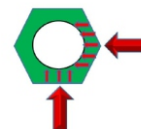
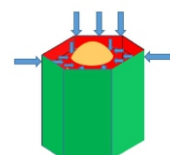

Fig. 7: bumpers hex
Fig. 8: forces exerted on the cell division
As seen in figure (6) when the egg hit the ground from the sides it will be cracked, however when it hits the ground on either of the ends, the impulsion effect would be much less. We would be able to save the egg, if we could protect the sides of the egg and try to distribute the forces evenly on both ends. We did this by placing a hexagonal paper with a hole in the center to fit the ends inside the hexagonal cell (Fig.7). The central hole caused the equal force distribution as the cell hit the ground and also protected the sides of the egg. Additionally, the walls of the cell will consume the impulsion effect and thus less pressure on the egg (Fig.8). Forces exerted on the entire structure is plotted in figure (9).